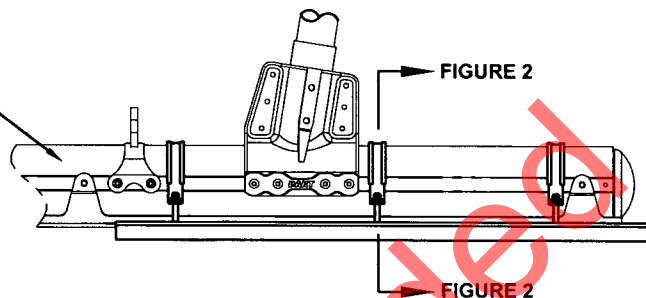

Figure 1 - Bearpaw Location
To install D119-647-013 Bearpaw kit on Dart D119-646-XXX Skidtubes equipped with training wearplates refer to Figure 1 & 2 of this Service Instruction as well as the following:
2.2 Position D3034-3 Bearpaw on the aft end of each skidtube so that the bearpaw clamps are located on either side of the aft saddle as shown in Figure 1 of this Service Instruction. The Bearpaws should be installed over the training wearplates.